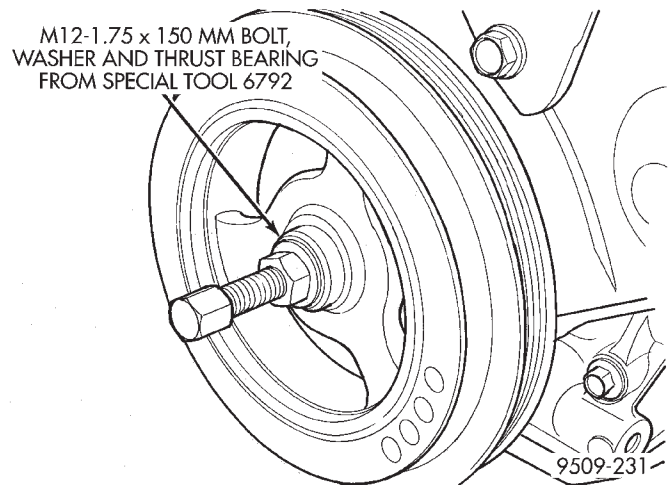

Fig. 96 Crankshaft Damper—Installation
(4) Install timing belt and covers. Refer to Timing Belt System in this section for installation.
(5) Install crankshaft damper (Fig. 96). Use thrust bearing/washer and 12M-1.75 x 150 mm bolt from Special Tool 6792. Install crankshaft damper bolt and tighten to 142 N·m (105 ft. lbs.)